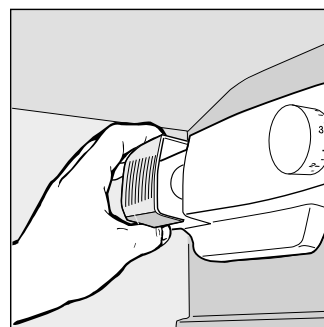

Fig. 5
- *Replacing the light bulb.* The bulb for lighting the interior of the refrigerator is located at the back of the thermostat box. When replacing the lamp, unplug the appliance from the electrical socket, unscrew the burned out lamp and replace it with another with a wattage no higher than 15W (fig. 5).